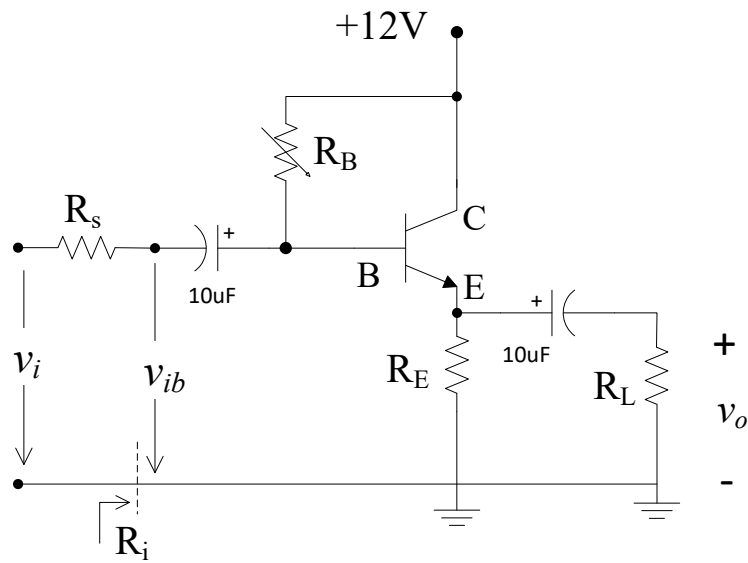

Figure 7.1: A common-collector BJT amplifier/emitter follower.
In Fig. 7.1, assuming  $V_{BEQ} = 0.6\text{V}$ ,  $\beta = 160$ ,  $R_s = 10\text{k}\Omega$ ,  $R_B = 56\text{k}\Omega$ ,  $R_E = 1\text{k}\Omega$ ,
- Construct the circuit in Fig. 7.1 using a npn BJT (2N3904) and  $R_L = 300\text{k}\Omega$